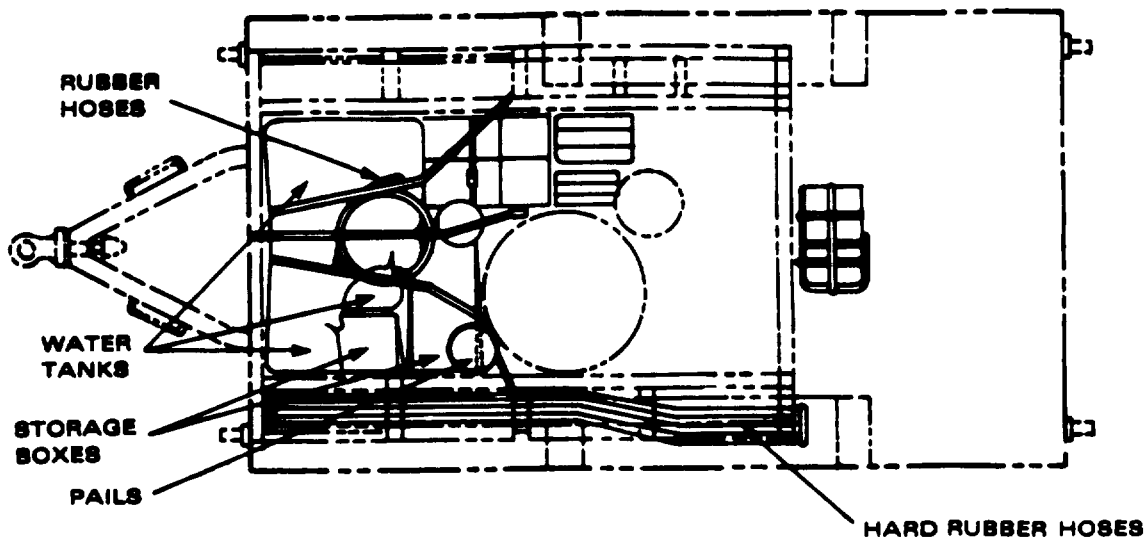

Figure 1-3 Top View Of ROWPU With Operating Equipment Stored (Army)
1-6. LOCATION AND DESCRIPTION OF MAJOR COMPONENTS. The Army ROWPU is 18 feet (5.5 meters) long, 8 feet (2.4 meters) high, and 8 feet (2.4 meters) wide. It weighs about 8 1/2 tons (7.71 metric tons), including the generator set. Figure 1-3 shows the ROWPU from the top with its canvas cover removed. Take a close look at how all the necessary operating equipment is stored on the trailer for transport and shipment.
a. To provide room for all operating components, material is stored in layers (fig. 1-3 and 1-4). The top layer consists of rolled-up (suction) hoses on top of two folded water tanks. Stored between the tanks is a sledge hammer and a collapsed telescopic aluminum paddle. Next to the tanks is a stack of five plastic pails with chemical names on their sides. On the same side of the ROWPU you will find two storage boxes fastened with a strap under the tanks. The boxes contain various chemicals, tools, and installation items. Nine sections of suction hose are stored on the side of the frame.